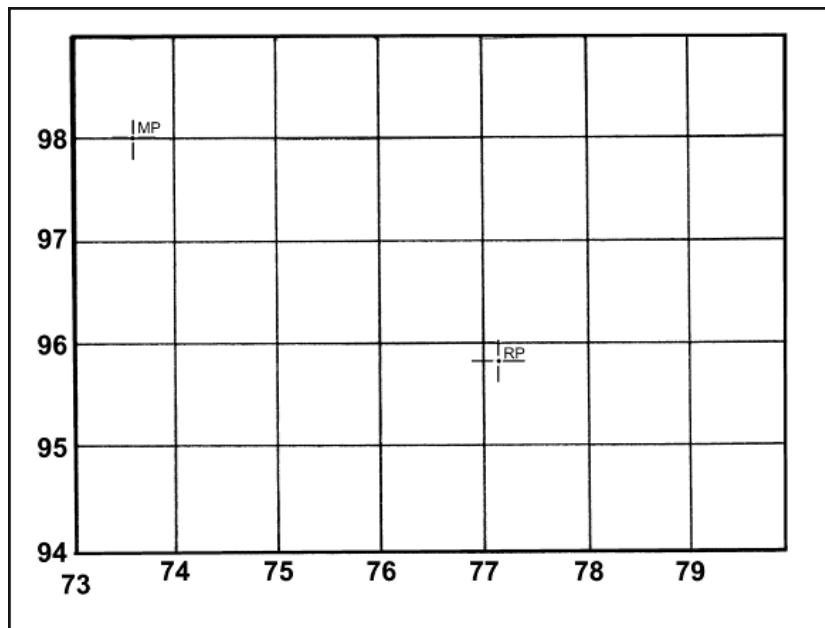

Figure A-23. Plotting targets on the 1:5,000-scale map.
(1) To make a 1:5,000-scale map, drop the 10,000-meter designator and use the 1,000-meter designator as the first number for each grid. For example, a mortar location of 07368980 becomes 736980. The 7 and the 9 will precede each grid location since they identify the 1,000-meter increments. To make an 8-digit grid from this 6-digit grid, add a 0 at the end of the easting and northing grid location. For example, the mortar grid becomes 73609800. The 0 is the 1-meter designator.
(2) Before constructing the 1:5,000-scale map, determine the direction of fire from the mortar position to the RP. (Surveying a point on the range should be done at least one day before training. If a point on the range has already been surveyed, it can be used to make the map.) For example, if the direction of fire is southeast, the mortar position would be in the northwest corner of the grid sheet. Using the example grid coordinates, the most westerly grid line would be 73 and the second most northerly grid line would be 98. Number the rest of the grid lines accordingly.
d. To determine the direction of fire, place a target downrange, set up the M2 aiming circle at the base gun position, and measure an azimuth to the target. To accurately plot targets on the map, measure the distance by pace count from the base piece to the target and then plot it on the map. This procedure allows the creation of a surveyed firing chart. The FO's location can be plotted in the same manner. After all plotting is done, give a copy of the map to the FO (Figure A-23). He can call for fire using this map the same as if firing service ammunition.